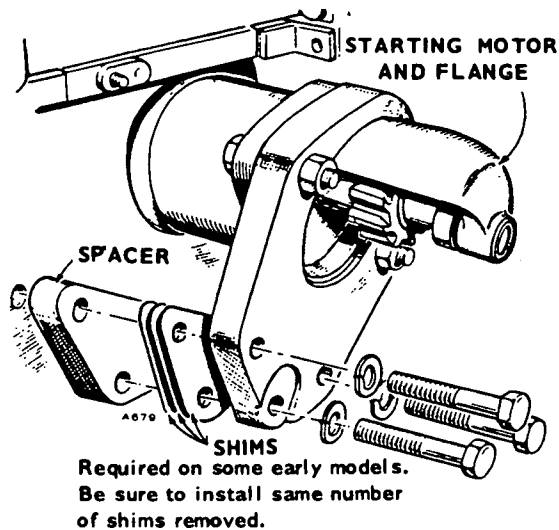

FIGURE 33. STARTING MOTOR SHIMS
11. If it is necessary to remove the starting motor flange (Figure 33), watch for shims between the flange and crankcase surface. Save any shims; they must be reinstalled to position the starter correctly.
On units built prior to serial No. 679677, it was necessary to maintain the gap between ring gear and starter pinion in the relaxed position at less than 1/8-inch to ensure starter engagement. When installing these motors, check this gap. If it is too great, a shim kit is available to reduce it. See Figure 33.